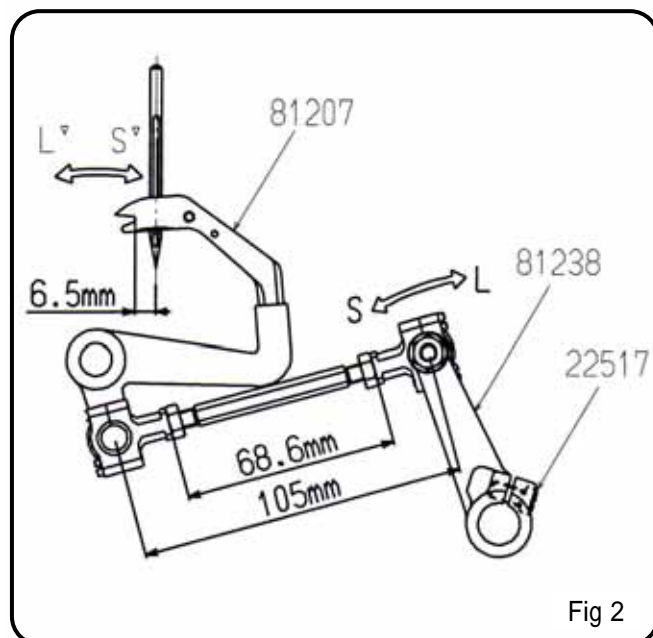

Fig 2
Turn the pulley clockwise, and check the distance between the needle center and the concave part of the spreader (81207) at the time when the spreader is at the farthest in the left. The distance must be 6.5mm as shown in (Figure2). If the distance is larger or smaller than 6.5mm, carry out necessary adjustments as follows: loosen the set screw (22517) of the spreader lever (81238), and turn the lever down (direction S') to move the spreader to the right (direction S), or turn it up (direction L) to move the spreader to the left (direction L'). Never fail to tighten the set screw (22517) after the adjustment.
a) 針とスプレッターの距離 <Fig.2>